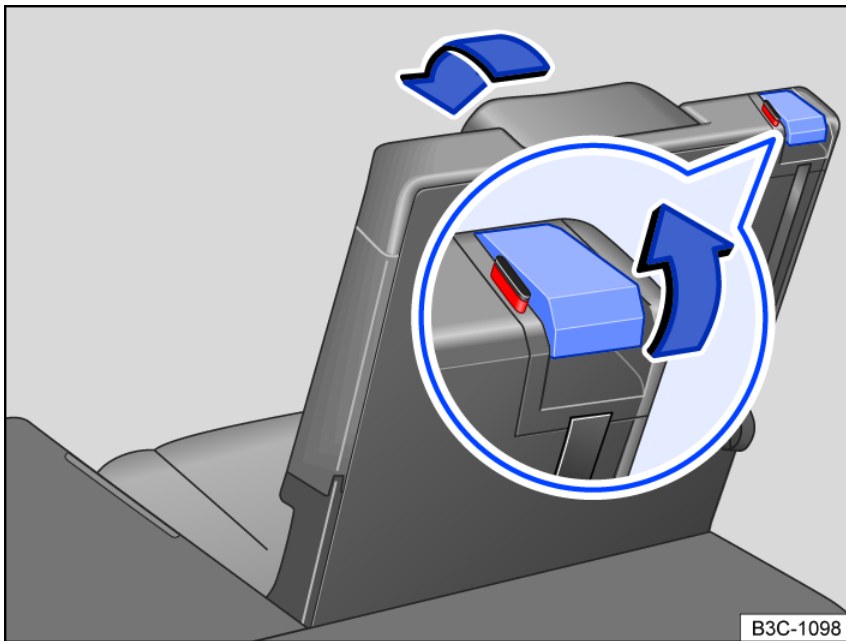

Fig. 77 Third row seat: folding the rear seat into the cargo floor position.
8. To release the rear seat backrest, pull the release lever *fig. 77* all the way up.
The red marking on the release lever fig. 77 must no longer be visible.
- A red marking on the release lever fig. 77 indicates that the rear seat backrest is not latched. The red marking must not be visible when the backrest is latched.